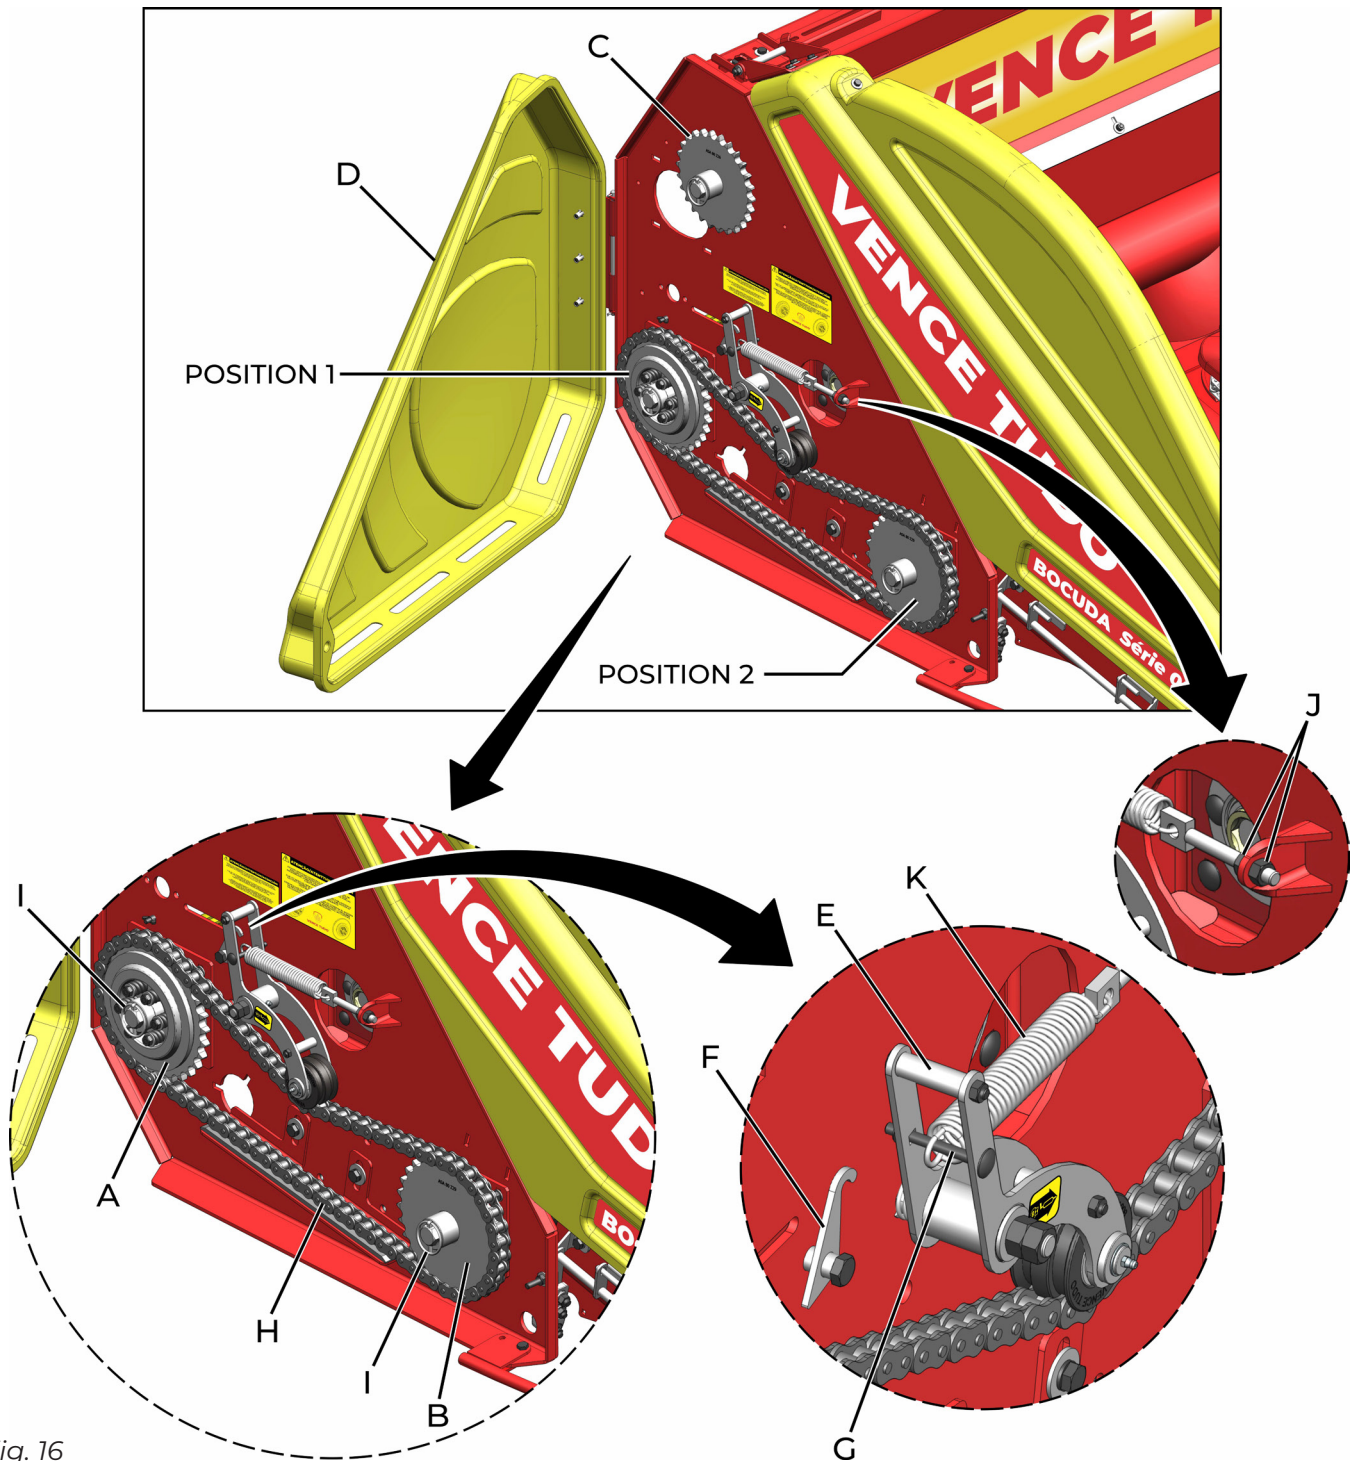

fig. 16
The VENCE TUDO CORN HEADER, BOCUDA SÉRIE 08, is factory-mounted with 30-teeth (A) (fig. 16) and 29-teeth (B) the transmission sprockets (clutch), where position 1 always will be driving and position 2, driven. This ratio can be changed according to the harvest speed desired by the operator. However, the 30-teeth sprocket (clutch) (A) must always be kept in one of the positions 1 or 2, and the 29-teeth sprocket (B) can be replaced either with the 26-teeth sprocket (C) or 23-teeth part that is shipped along in the additional parts box.
1. Open the side hood (D) (fig. 16);
2. Pull the tensioner (E) and engage the lock (F) on the screw (G) and then remove the chain (H);
3. Remove the lock pins with ring (I) and replace the sprockets (A) and/or (B), according to the desired option;
4. Reassemble the lock pins with ring (I) and the chain (H). While mounting the chain, observe if there is any need to adjust its length. If so, use the splices and reductions available in the parts box to perform this adjustment;
5. Release the lock (F) by releasing the tensioner (E). If necessary, adjust the chain tension using the nuts (J) that stress the spring (K).